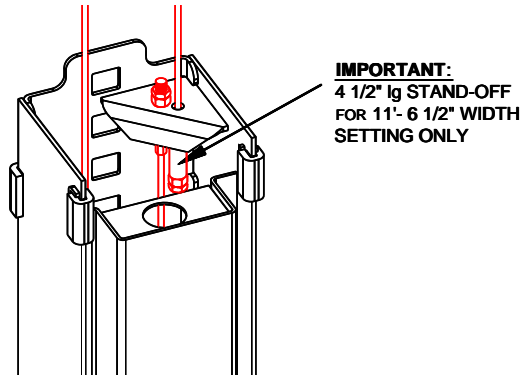

Fig 6 – Cable Assembly
- Attach one end of synchronizing cable to carriage. See **Fig 6** for proper attachment.
- Route cable up and over sheave in overhead. Follow across to other sheave on opposite column. Route down through carriage to sheave in bottom of column. Route under sheave and up to cable attachment. Use **Fig 6** for proper attachment.